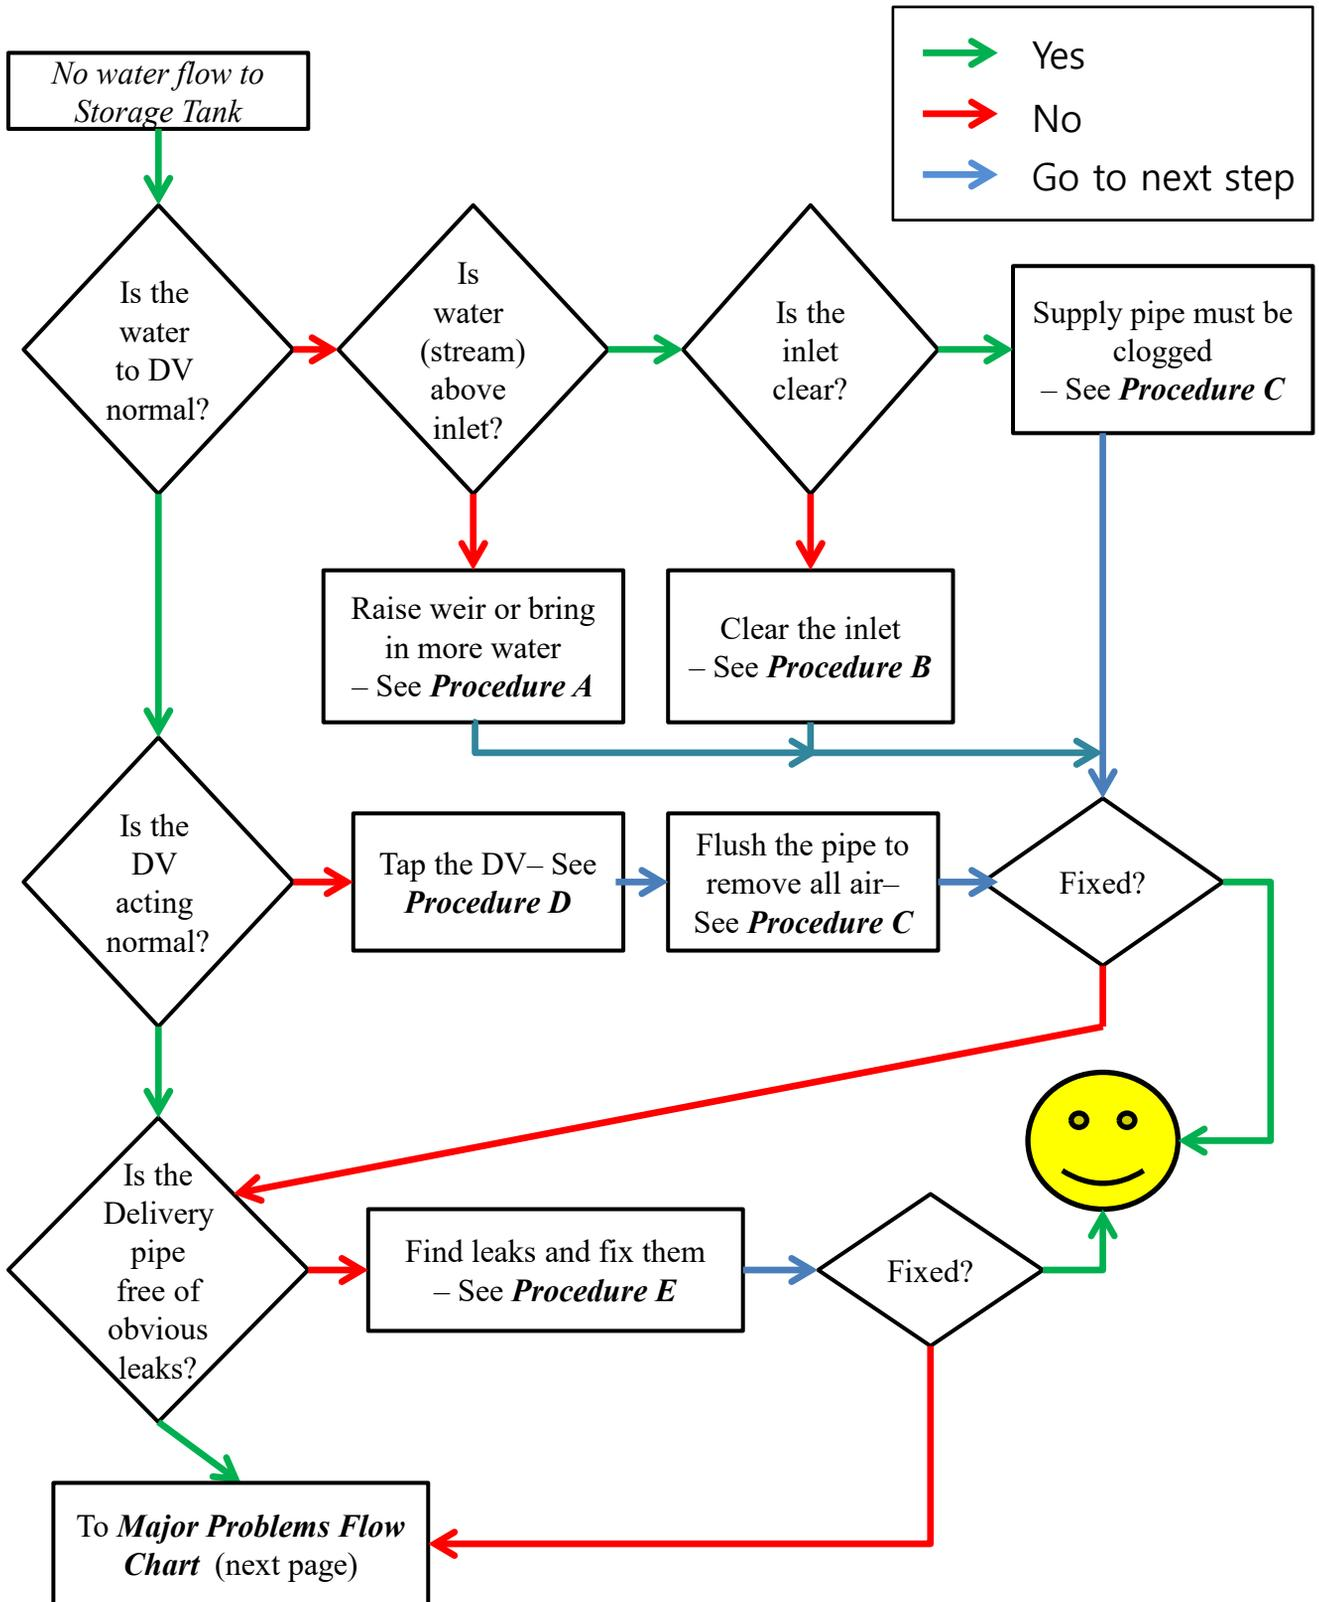
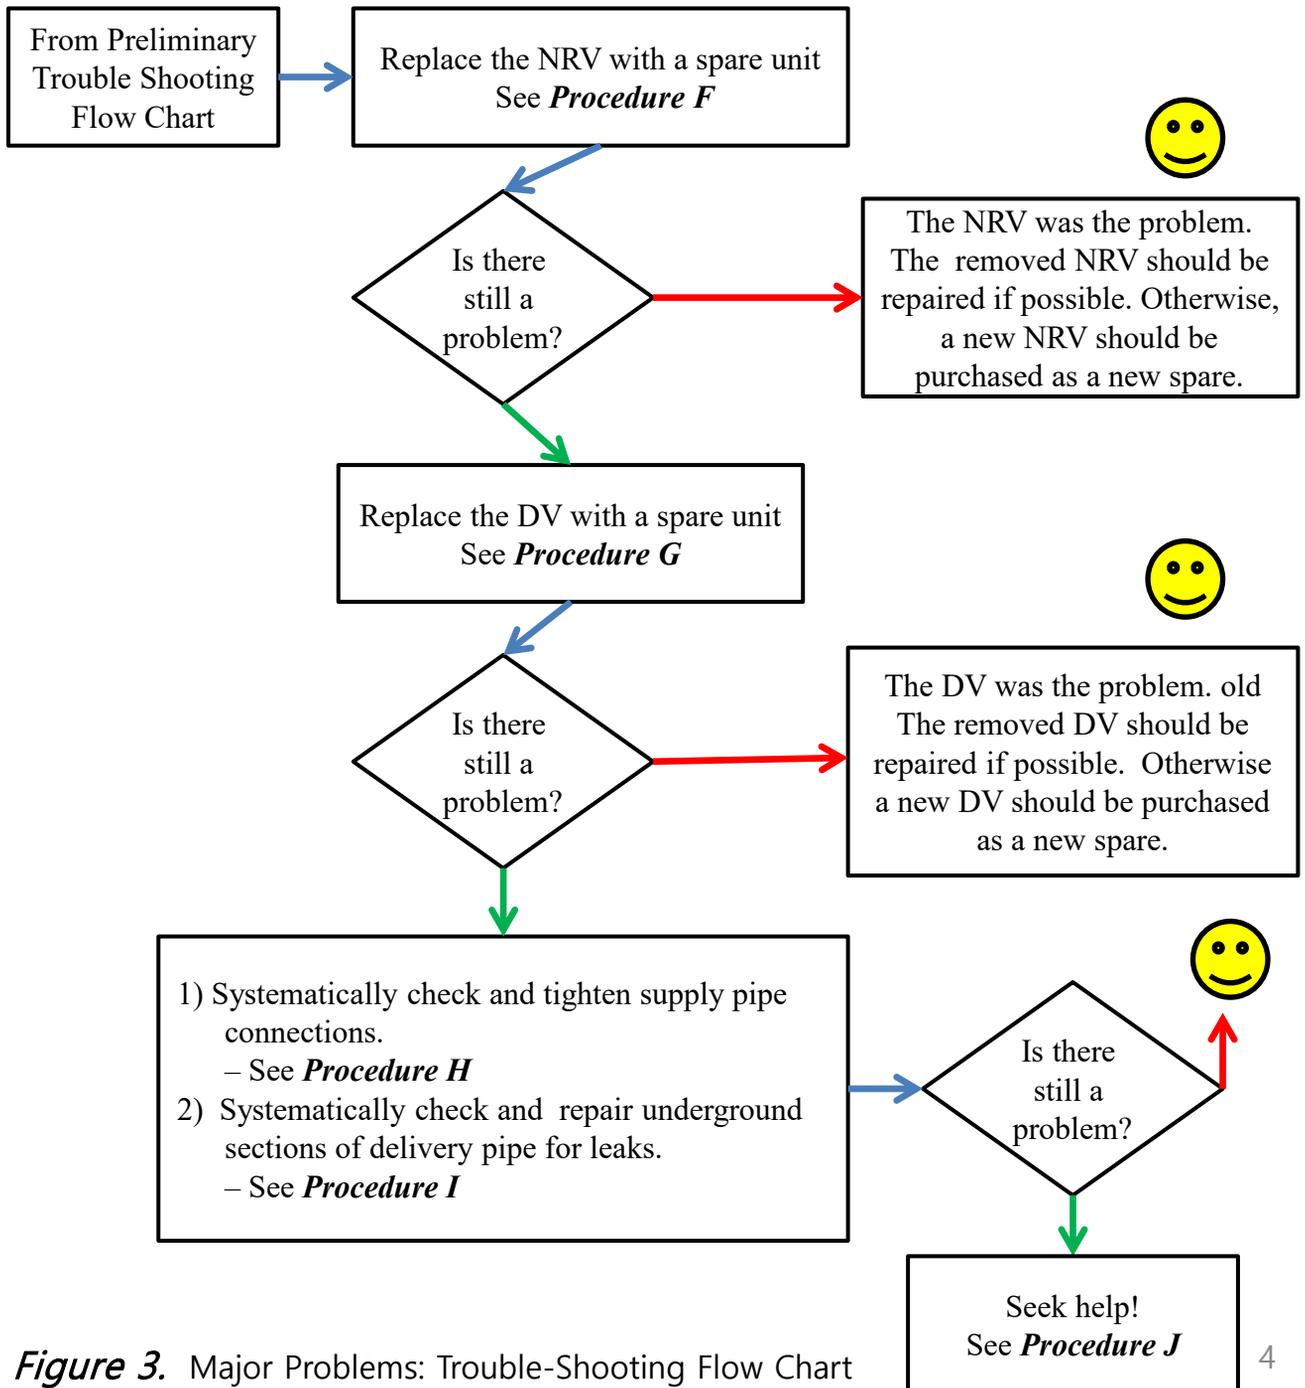

Figure 2. Preliminary Trouble-Shooting Flow Chart
Figure 3. Major Problems: Trouble-Shooting Flow Chart
- The two "trouble-shooting flow charts" (Fig. 2 and Fig. 3) will be helpful in locating the source of the problem when there is no water coming to the tank.
- In most cases, the problem should be minor and Fig. 2 will be useful. Start from the box in the upper-left corner and follow the arrows.
- If Fig. 2 does not solve the problem, go to Fig. 3.
- If Fig. 3. also fails to solve the problem, call for help.